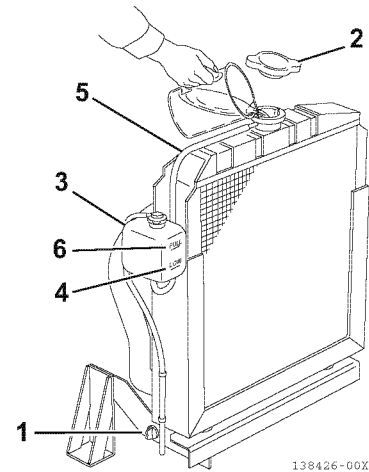
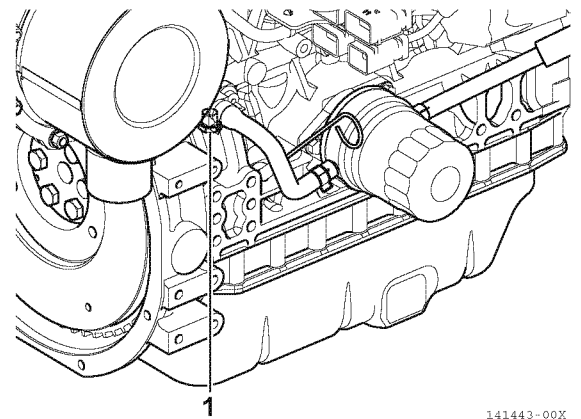

Figure 4-27
Figure 4-28
1. Check to be sure the radiator drain plug is installed and tightened or the drain valve (1, **Figure 4-27**) is closed. Also make sure the coolant hoses (1, **Figure 4-28**) are installed at the oil cooler.
2. Remove the radiator cap (2, **Figure 4-27**) by turning it counterclockwise about 1/3 of a turn.
4. Reinstall the radiator cap (2, **Figure 4-27**). Align the tabs on the back side of the radiator cap with the notches on the engine coolant filler port. Press down and turn the cap clockwise about 1/3 of a turn.
5. Remove the cap of the reserve tank (3, **Figure 4-27**), and fill it to the LOW (COLD) mark (4, **Figure 4-27**) with engine coolant. Reinstall the cap.
6. Check the hose (5, **Figure 4-27**) that connects the reserve tank (3, **Figure 4-27**) to the radiator. Be sure it is securely connected and there are no cracks or damage. If the hose is damaged, engine coolant will leak out instead of going into the reserve tank.
7. Run the engine until it reaches operating temperature. Check the level of engine coolant in the reserve tank. When the engine is running and the engine coolant is at normal temperature, the coolant level in the reserve tank should be at or near the FULL (HOT) mark (6, **Figure 4-27**). If the coolant is not at the FULL (HOT) mark, add coolant to the reserve tank to bring the coolant level to the FULL (HOT) mark.
1. Check the level of engine coolant in the reserve tank. When the engine is cold, the coolant level in the tank should be at or slightly above the LOW (COLD) mark (4, **Figure 4-27**) on the coolant reserve tank.
If the coolant level is at the FULL (HOT) mark (6, **Figure 4-27**) when the engine is cold, the coolant will expand when it becomes hot and possibly spray out of the overflow hose.